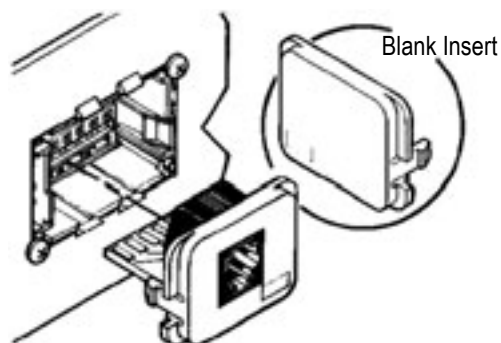

Figure 10
1. Install connector inserts by pushing the insert into the appropriate port. Align insert latches with tabs on the edge of the housing. If a port is not used, install a blank insert into the port. See Figure 10.